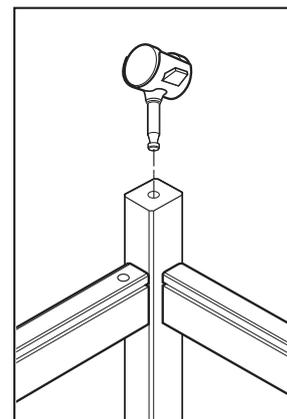

Figure 6
- Insert the castor spindle into the hole in each leg's end, as per **Figure 6** and push in all the way.